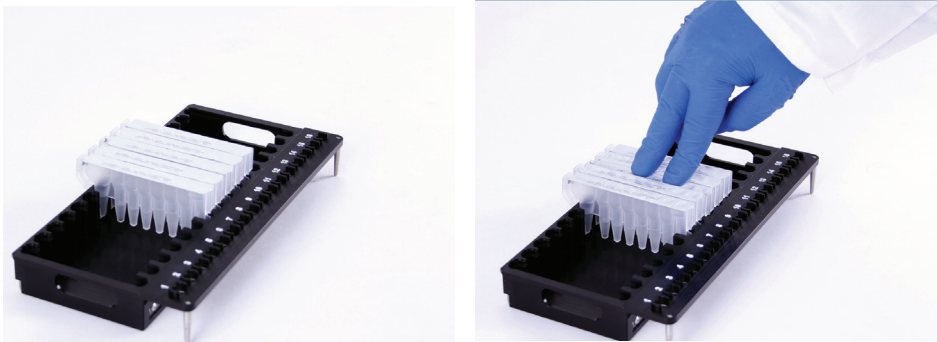

Figure 52. Place the cartridges in the deck tray, and press firmly to snap them in place.
- Place cartridges at the selected positions in the deck tray (Figure 52). Press down firmly to snap the cartridges in place. There should be an audible snap.